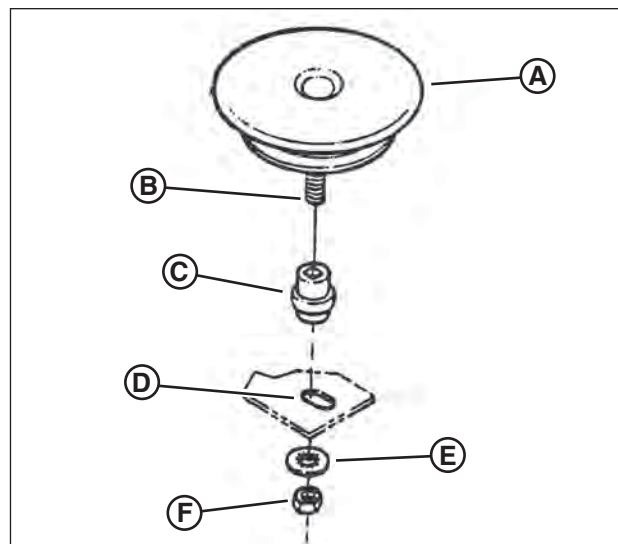

Figure 34: Removing the drive disc
5. Hold the slotted end of the drive disc bolt (B, Figure 34) with a screwdriver and remove the nut (F) and internal tooth lock washer (E).
7. Lift the drive disc (A) up and remove the worn belt.